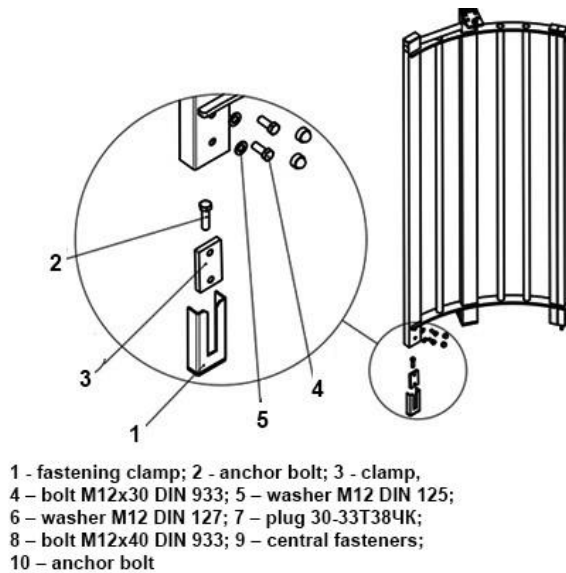

Figure 7 – Fastening of fixed fencing panel
4.2.8 Figure 7 – fasten the turnstile fixed fencing panel using the fastening clamps (1) 2 pcs, M12 anchor bolts (2), screwing them into appropriate anchors using the 19 mm wrench (two fastening options).